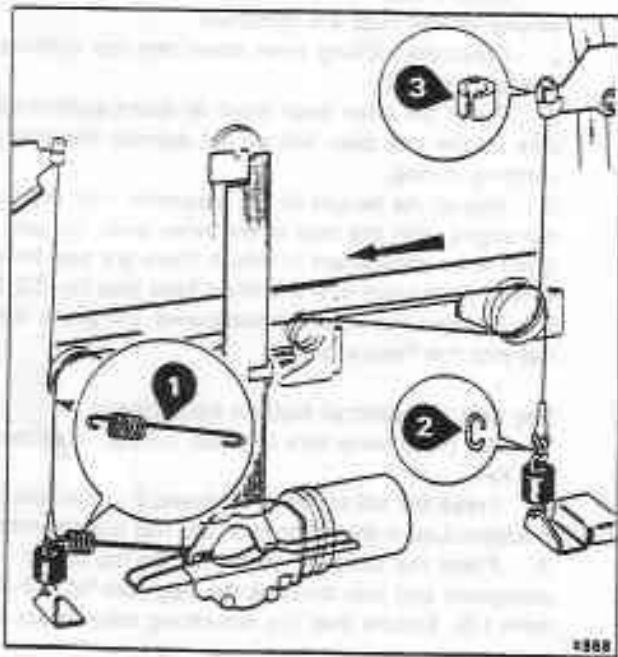

Fig. S3-25 Wire guidance assembly
On left-hand front doors only, release the additional spring situated between the window motor and the guidance wire (see fig. S3-25).
1. On left-hand front doors, note that there is an additional spring (see fig. S3-25, item 1) situated between the window motor and the guidance wire. Release this spring when removing the wire guidance assembly.
2. Check the operation of the window glass to ensure that the glass, when raised, seats fully into the window channel. If the glass needs to be moved rearwards within the channels, fit an additional link and spacer as shown in figure S3-25, items 2 and 3. If the glass requires moving forwards within the channels, fit the link and spacer on the rear guidance wire.